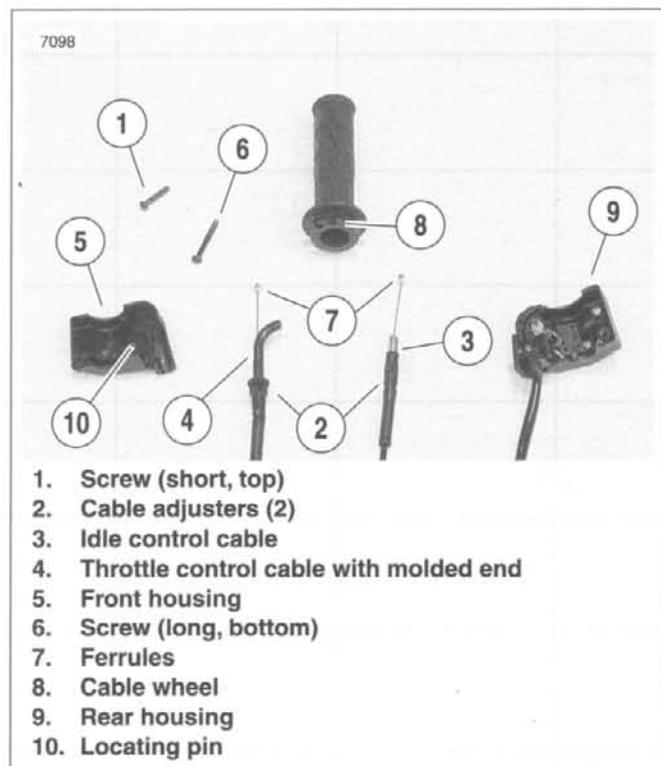

Figure 2-127. Cable Connections
2. See Figure 2-127. Remove two screws (1, 6) on front housing. Separate housings from handlebar.
3. Unhook ferrules (7) from cable wheel (8).
1. See Figure 2-127. Place cable assemblies (3, 4) into housings (5, 9). Throttle control cable (4) has a molded fitting end and is positioned inside the front housing (5). Idle control cable (3) has a smaller fitting end and is positioned inside the rear housing (9).
3. Attach ferrules (7) to cable wheel (8). When properly assembled, notches for ferrules will be at 12 o'clock.
4. Position housings on right handlebar by engaging locating pin (10) on front housing with hole in handlebar. Attach housings with two screws (1, 6), installing longer screw on bottom. Tighten to 12-17 **in-lbs** (1.4-1.9 Nm).